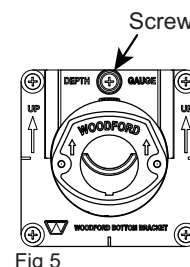

Fig 5
7. Lock the Top Bracket into one of the Mounting Sleeve slots. Use the remaining wood screw to secure the Top Bracket. Fig 5